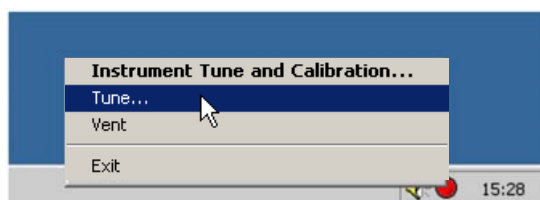

Figure 2-4. Server window
- First, click on the server icon and then **Tune...** as in Figure 2-4.